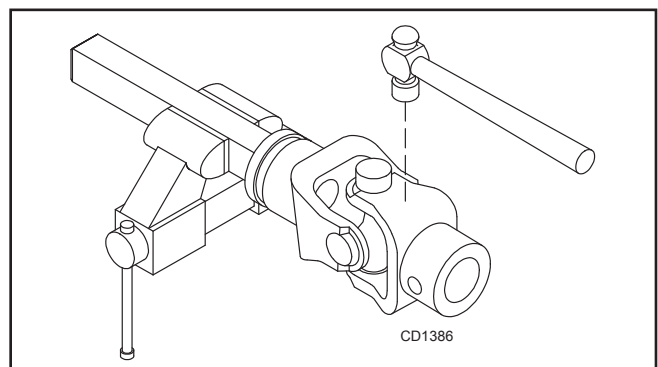

Figure 24.
2. With snap rings removed, support drive in vise, hold yoke in hand and tap on yoke to drive cup up out of yoke. See Figure 24.